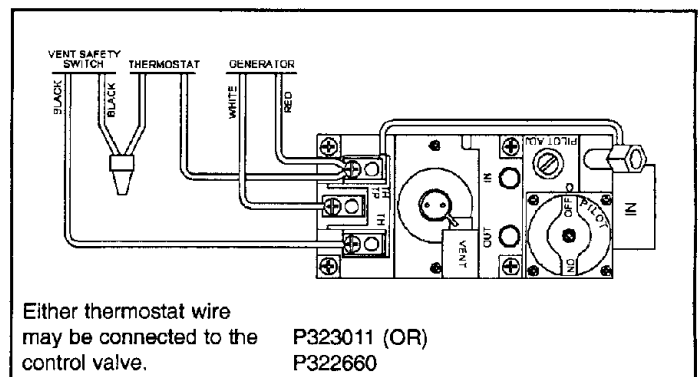

Figure 21
8. Connect thermostat wires to the control valve as shown in Figure 21.